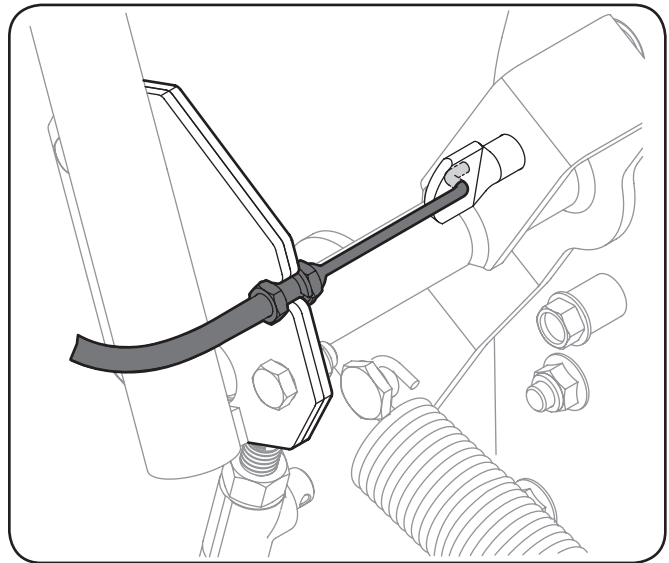

Figure 3-20
2. Position the cable housing in the notch on the lift handle. Attach the Z-fitting end of the lift cable to the lock rod found on the lift shaft assembly. See Figure 3-20.